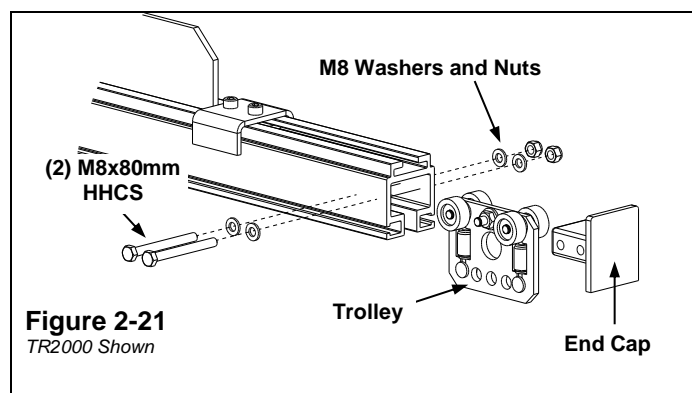

Figure 2-21
- Step 1. Remove (2) M8x80mm HHCS bolts, washers, nuts and lanyard from end cap. Remove end cap. See Figure 2-21.
- Step 3. Install end cap and tighten M8x80mm HHCS bolts, washers, and nuts. See Figure 2-21.